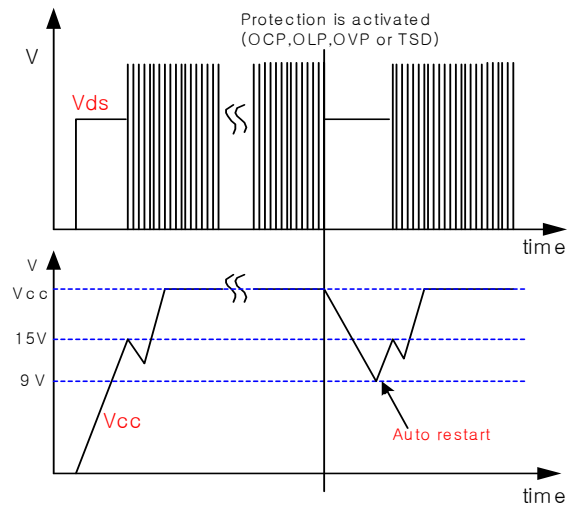

Figure 3. Auto restart operation after protection
**3. Protection function :** FS8S0965RCB has 4 self protective functions such as abnormal over current protection (AOCP), over load protection (OLP), over voltage protection (OVP) and thermal shutdown (TSD). Because these protection circuits are fully integrated into the IC without external components, the reliability can be improved without cost increase. In the event of these fault conditions, the FPS enters into auto-restart operation. Once the fault condition occurs, switching operation is terminated and MOSFET remains off, which forces  $V_{cc}$  to be reduced. When  $V_{cc}$  reaches 9V, the protection is reset and the supply current reduces to  $80\mu A$ . Then,  $V_{cc}$  begin to increase with the current provided through the start-up resistor. When  $V_{cc}$  reaches 15V, the FPS resumes its normal operation if the fault condition is removed. In this manner, the auto-restart alternately enables and disables the switching of the power MOSFET until the fault condition is eliminated as illustrated in figure 3.